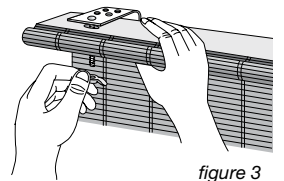
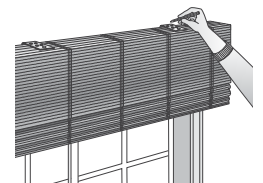

figure 3
figure 4
1. Attach New York brackets (provided) to headrail in each pre-drilled slot (figure 3). An "Install Here" label will mark hole locations if headrail is fabric wrapped. Hold the shade in its desired installed location against the wall or window casing. Using a pencil, mark the top of each bracket location (figure 4).
5. With the brackets installed level to one another, remove the wing nuts and hold the shade up into the bracket posts. Reinstall the wing nuts to the brackets and hand-tighten until snug (figure 3).